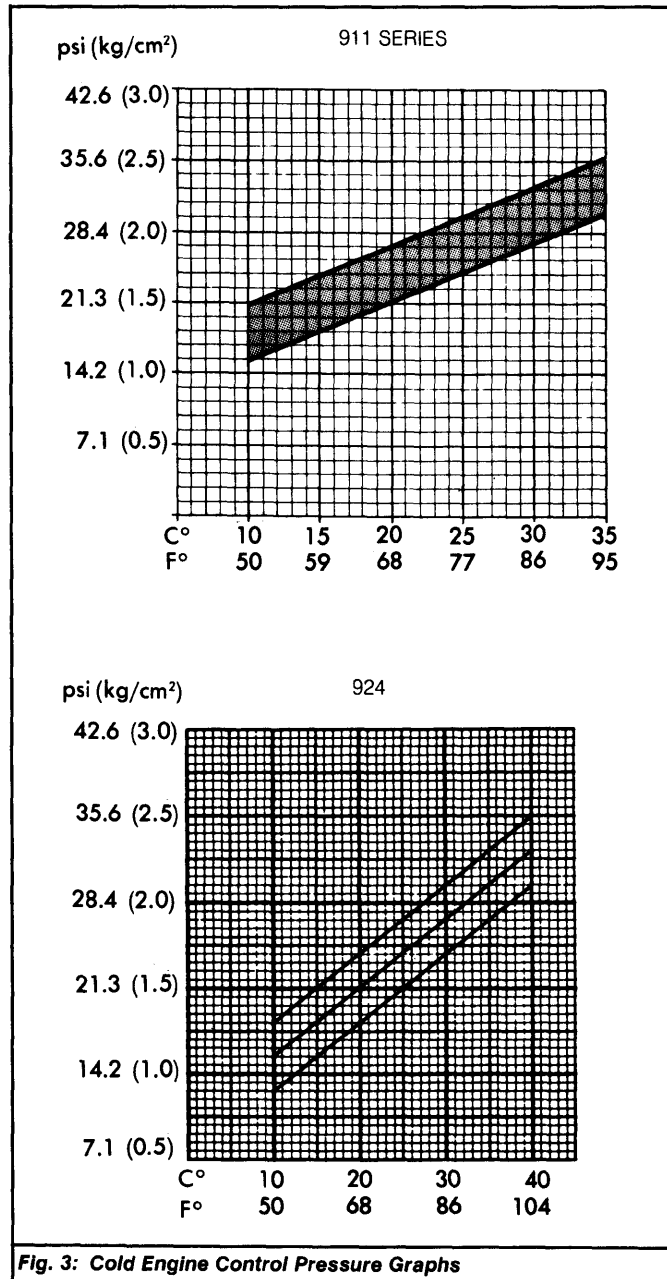

Fig. 3: Cold Engine Control Pressure Graphs
- 3) On all other models, compare readings with cold engine control pressure graph. See Fig. 3. If pressures are incorrect, replace control pressure regulator.